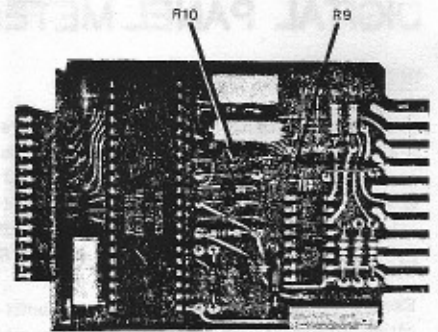

Figure 5. Component Location
- Observe resistor values that are in unit and compare to figure 5 and table II below. Install values of resistors as specified in table II to attain desired range. Note that resistors R9 and R10 plug in. No soldering is required.